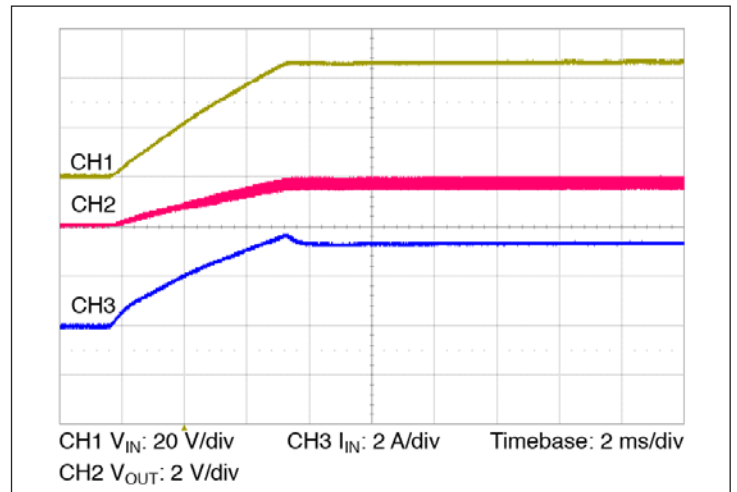

Figure 10 – Start up from application of V_{IN} ; VC pre-applied $C_{OUT} = 27000 \mu F$
- Normal operation (VC applied prior to V_{IN}): In this case the controller is active prior to ramping the input. When the input voltage is applied, the VTM output voltage will track the input (See Figure 10). The inrush current is determined by the input voltage rate of rise and output capacitance. If the VC voltage is removed prior to the input reaching 26 V, the VTM may shut down.